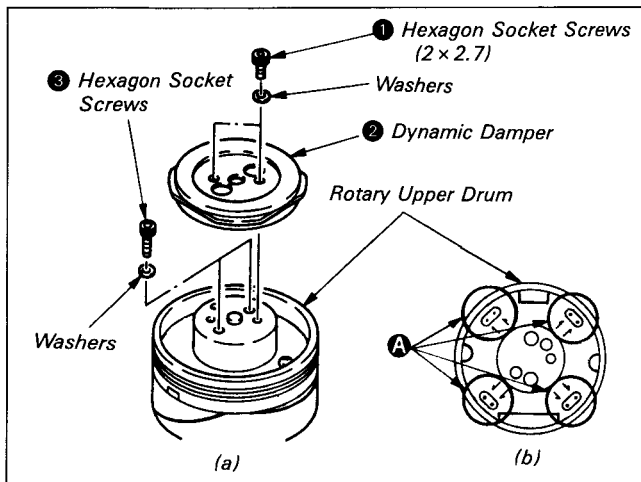

Fig. 7-45.
- 1) Remove two hexagon socket screws (2 × 2.7) ① and dismount the dynamic damper ②. (See Fig. 7-45.)
- 2) Suction solder at all of the soldered eight positions A. Check that the printed wiring board and pins jutting out from below freely move using tweezers, or other tool. (See Fig. 7-45.)
- 3) Remove the two hexagon socket screws (2 × 5) ③. (See Fig. 7-45.)
- 3) Remove Jig C, lightly push the rotary upper drum by hands. If the rotary upper drum does not go in to the bottom, alternately tighten the two hexagon socket screws (2 × 5) ③ by hand and fix them temporarily. (See Fig. 7-45, 7-48.)
- 4) Reinsert the Jig C in the positioning hole D and check that the jig can be inserted smoothly. (When the jig cannot be inserted, loosen the two hexagon socket screws (2 × 5) ③ and slide it inserting a clock screw-driver in the hole.)
- 5) Tighten the two hexagon socket screws (2 × 5) ③.
- 6) Solder the eight positions A. (See Fig. 7-45.)
- 7) Tighten the two hexagon socket screws (2 × 2.7) ① reversing the screw removal procedure and remount the dynamic damper ②. (See Fig. 7-45.)